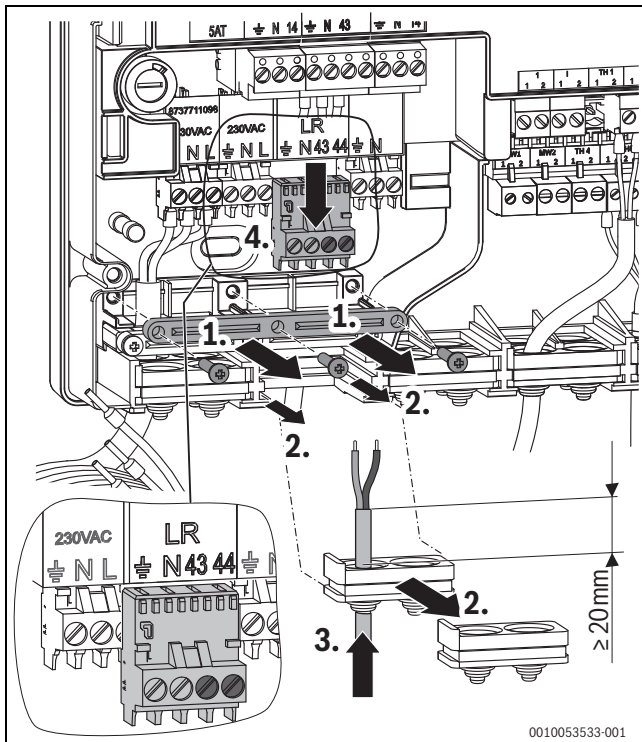

Fig. 30 Connect the 230 V voltage supply of the external controller (PHO cable not shown)
- ▶ Remove the three screws and strain relief, (→Fig. 30, step 1.).
- ▶ Remove the two terminals (→Fig. 30, step 4.).